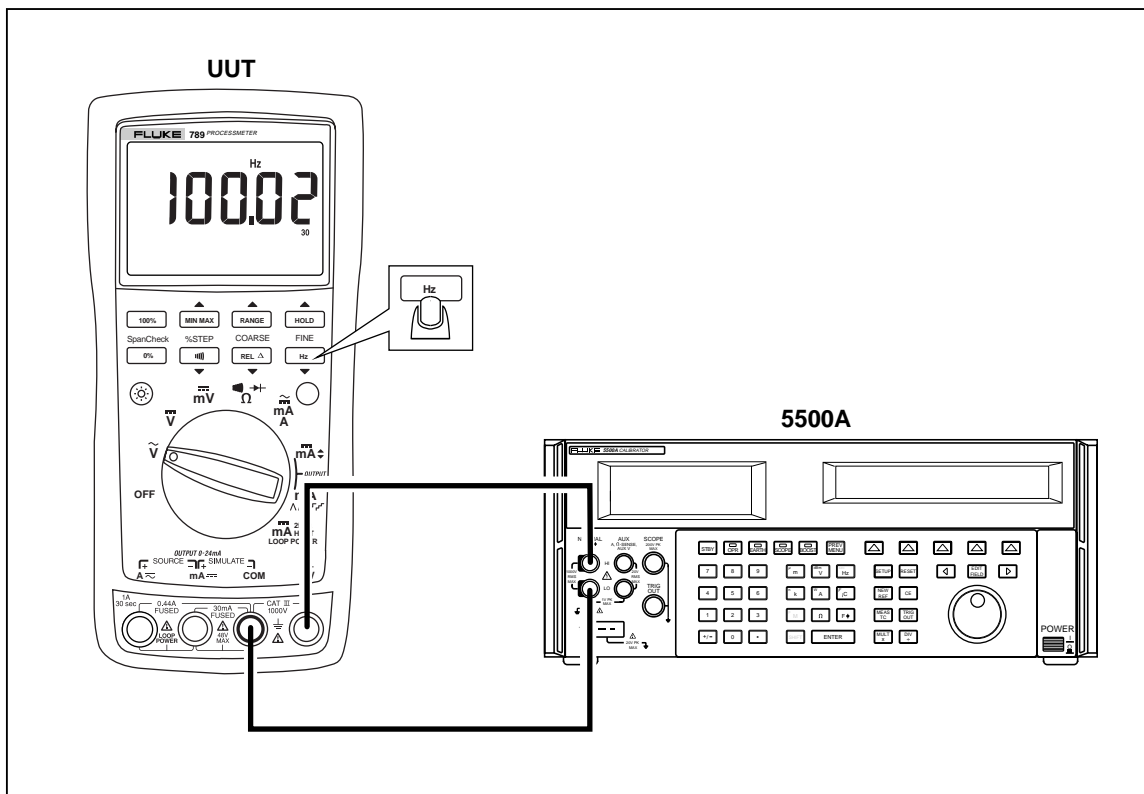

Figure 10. Frequency Measurement Test Connections
4. Connect the calibrator to the **COM** and ΩV terminals on the UUT as shown in Figure 10.